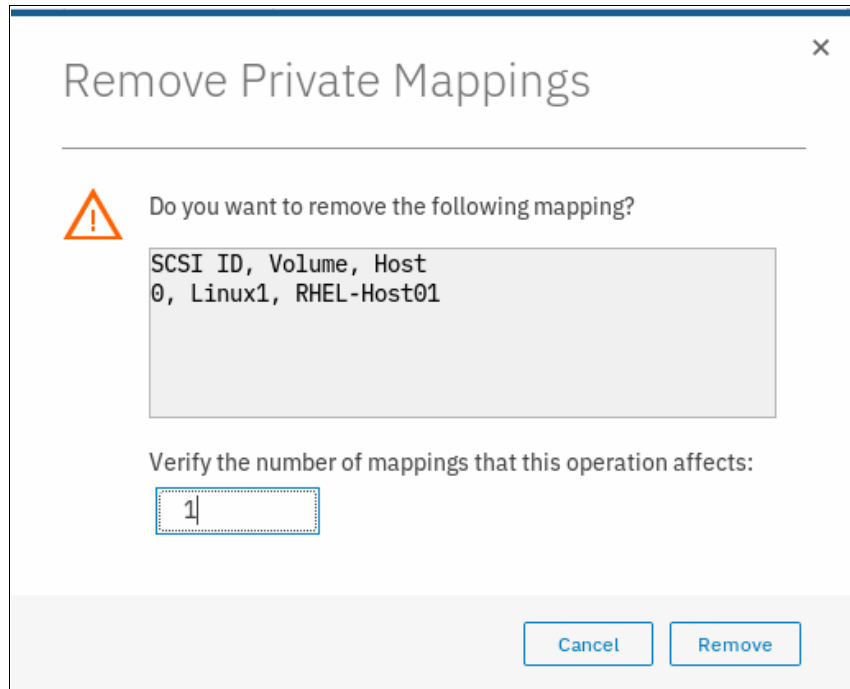

Figure 8-38 Unmapping from host or hosts
2. Confirm the number of mappings to remove, and click **Unmap**, as shown in Figure 8-38.